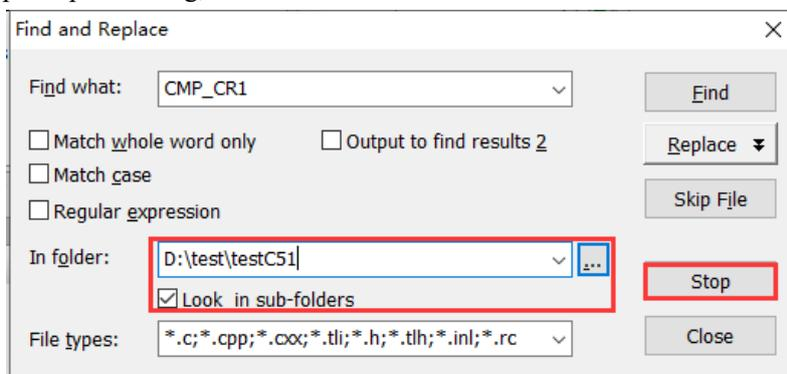
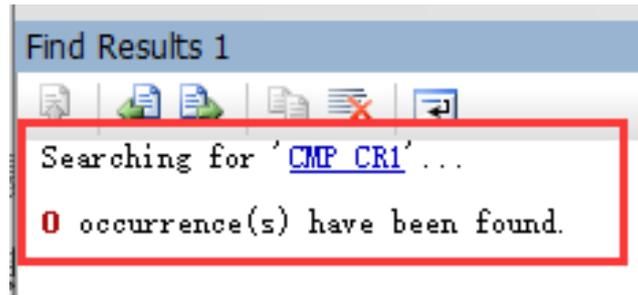

Figure 3-12
Figure 3-13
20. Find and replace: click  or press Ctrl+F or Ctrl+H to implement the feature, as shown in Figure 3-12. The search results are shown in Figure 3-13.